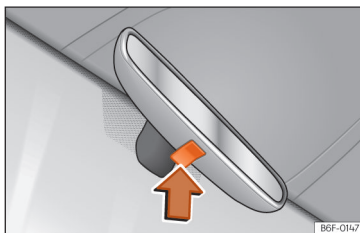

Fig. 79 Manual anti-dazzle function for rear vision mirror
- To darken the rear view mirror, press the mirror button updates »» **Fig. 79** (arrow).